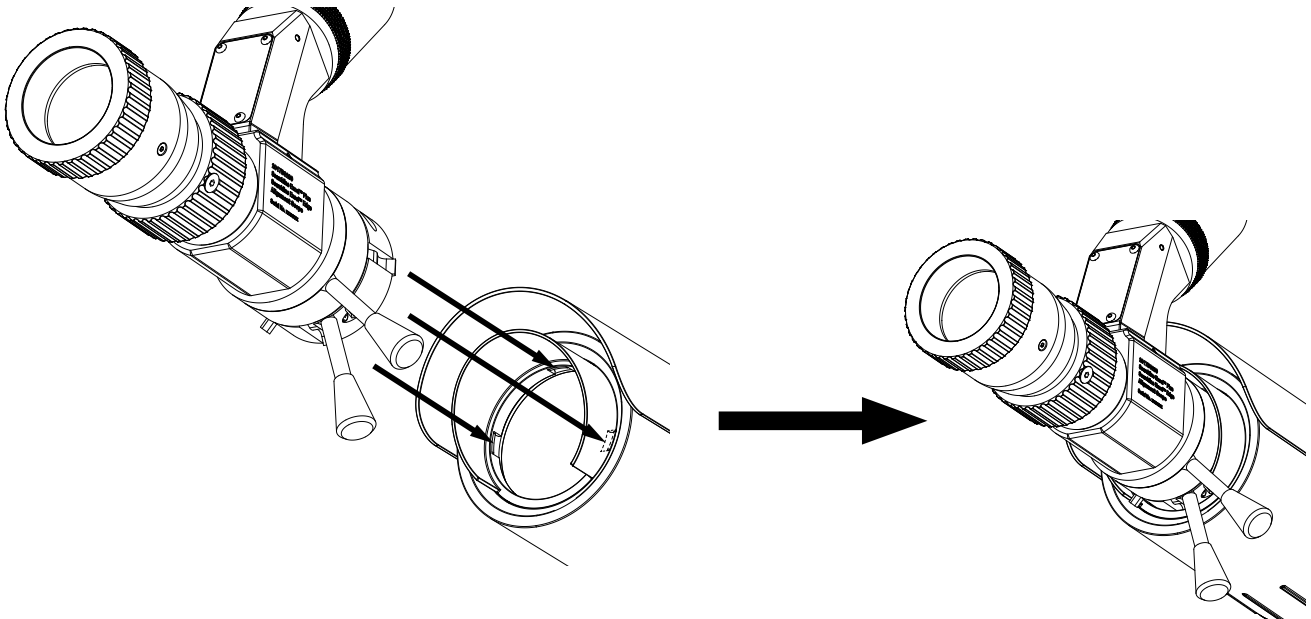

Figure 34. Fitting the Alignment Scope onto four slots
The basic procedure for aligning the transmitter and receiver is the same. The Searchline Excel Alignment Scope is used for both Searchline Excel Plus & Searchline Excel Edge and is simply attached to the front face of the transmitter and receiver (see Figure 34) and must be fitted to each of the instruments in turn, starting with the transmitter.
- Push the Alignment Scope fully home onto the **four slots** on the instrument (see Figure 34).